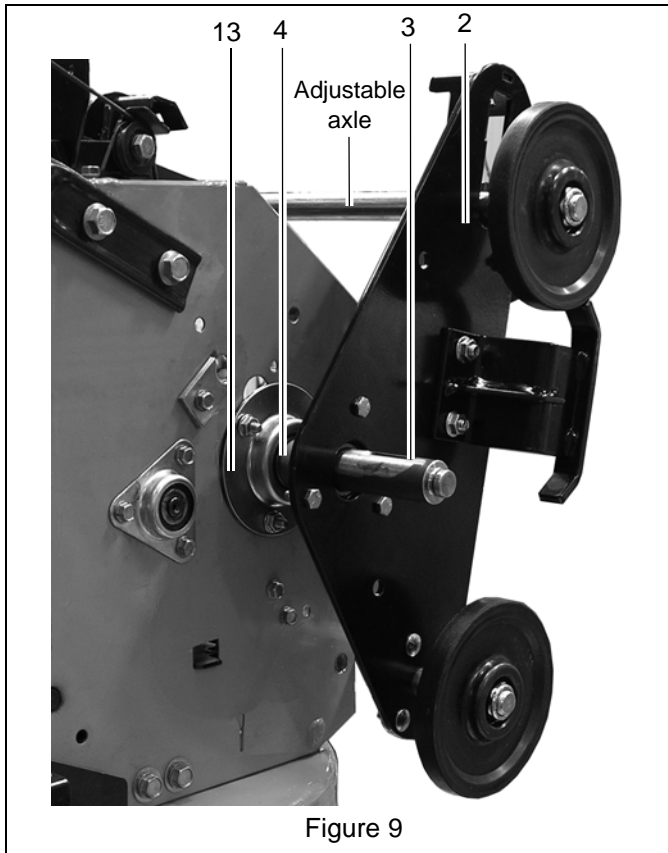
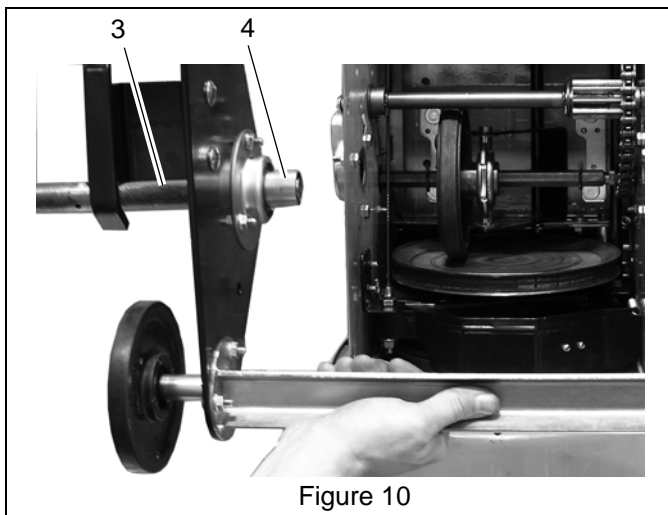

Figure 9
Figure 10
13. Lift carriage assembly (item 2) into position around frame with adjustable axle toward rear of unit. Align bearings on frame to bearings on track carriage and insert track drive axle (item 3) into left side of track carriage (item 2), spacer (item 4), and into flange bearing (item 13) so that carriage assembly is supported on left side. See Figure 9 and Figure 10.